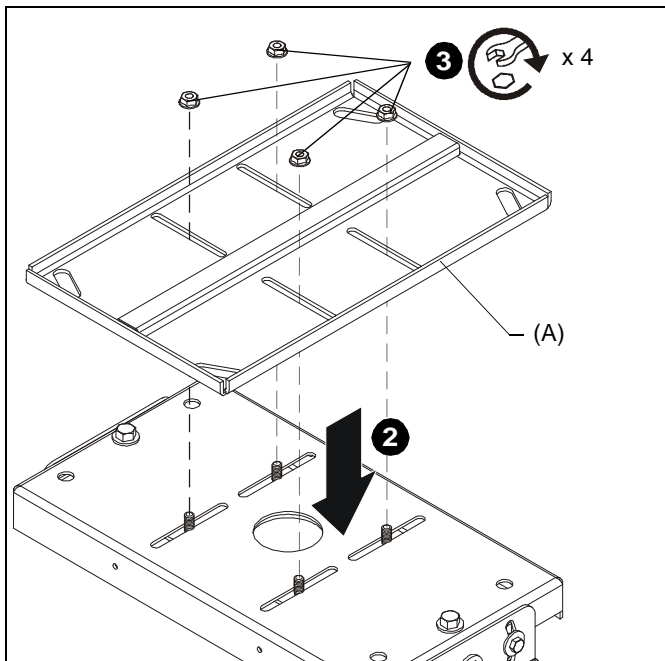

Figure 2
3. Place LPK1 mount (A) open side up on top of VCM, with VCM studs fitting through LPK1 slots. (See Figure 2)
4. Tighten LPK1 (A) in place using four nuts removed in Step 1. (See Figure 2)